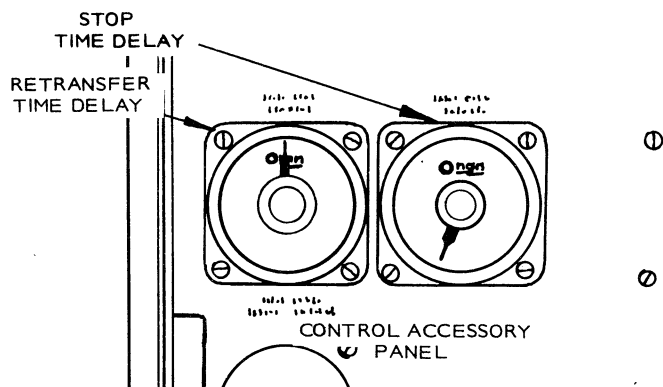

FIGURE 22. STOP AND RETRANSFER TIME DELAY RELAYS
2. Set the time delay by turning the adjustment knob in the center of the delay. See Figure 22.